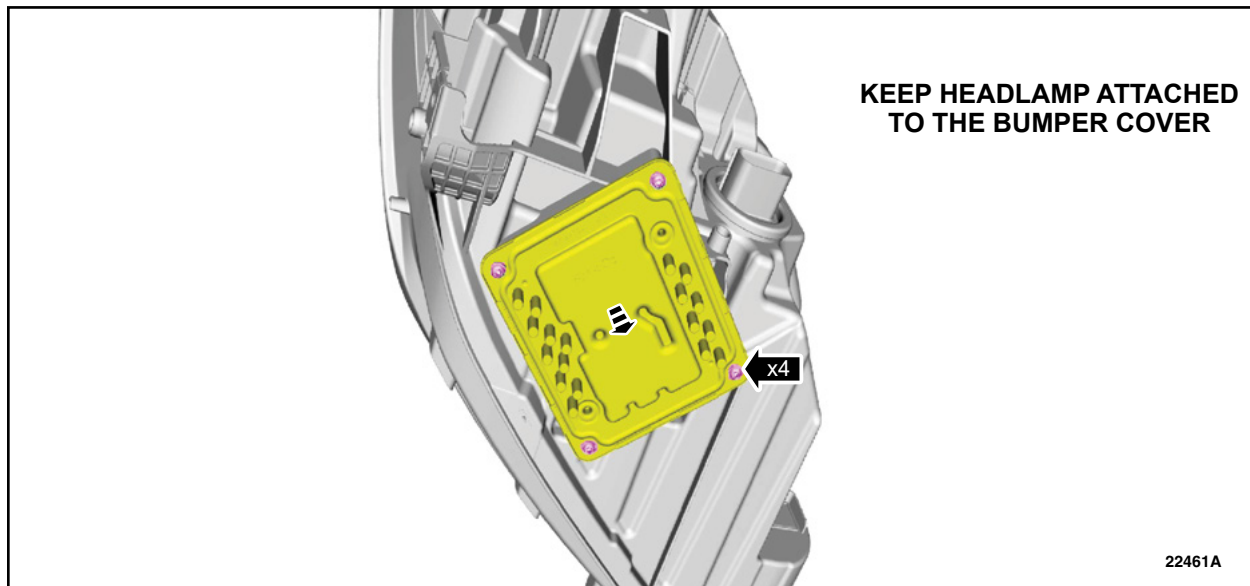

FIGURE 1
2. Remove the screws and release the Light Emitting Diode (LED) Control Module from the headlamp assemblies. See Figure 1.